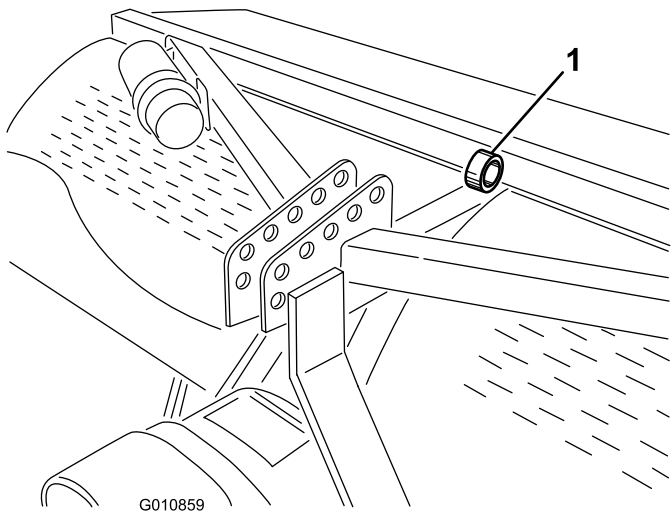

Figure 44
**Note:** You can use a hoist to lift the aerator. Use the coring head eyelet as a hoist attachment point (Figure 44). Ensure that the hoist has enough lift capacity. Refer to Specifications \(page 21\).